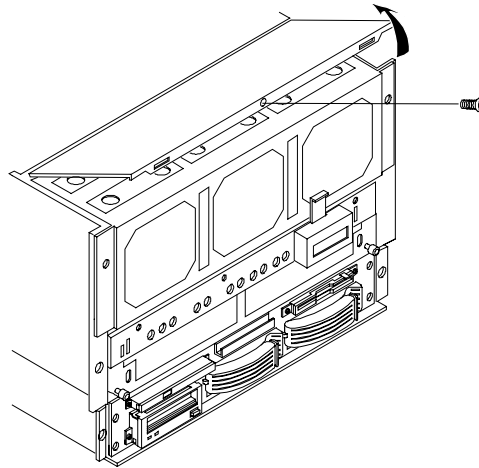

Figure 2-6. Removing the Fan Cover
3. Remove the screw on the front of the fan cover, as shown in Figure 2-6.